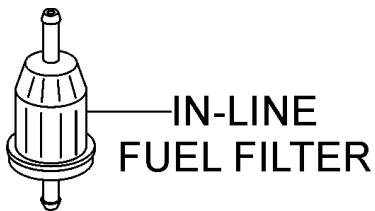

Figure 16. In-Line Fuel Filter
- Inspect in-line fuel filter (Figure 16) and replace if necessary.